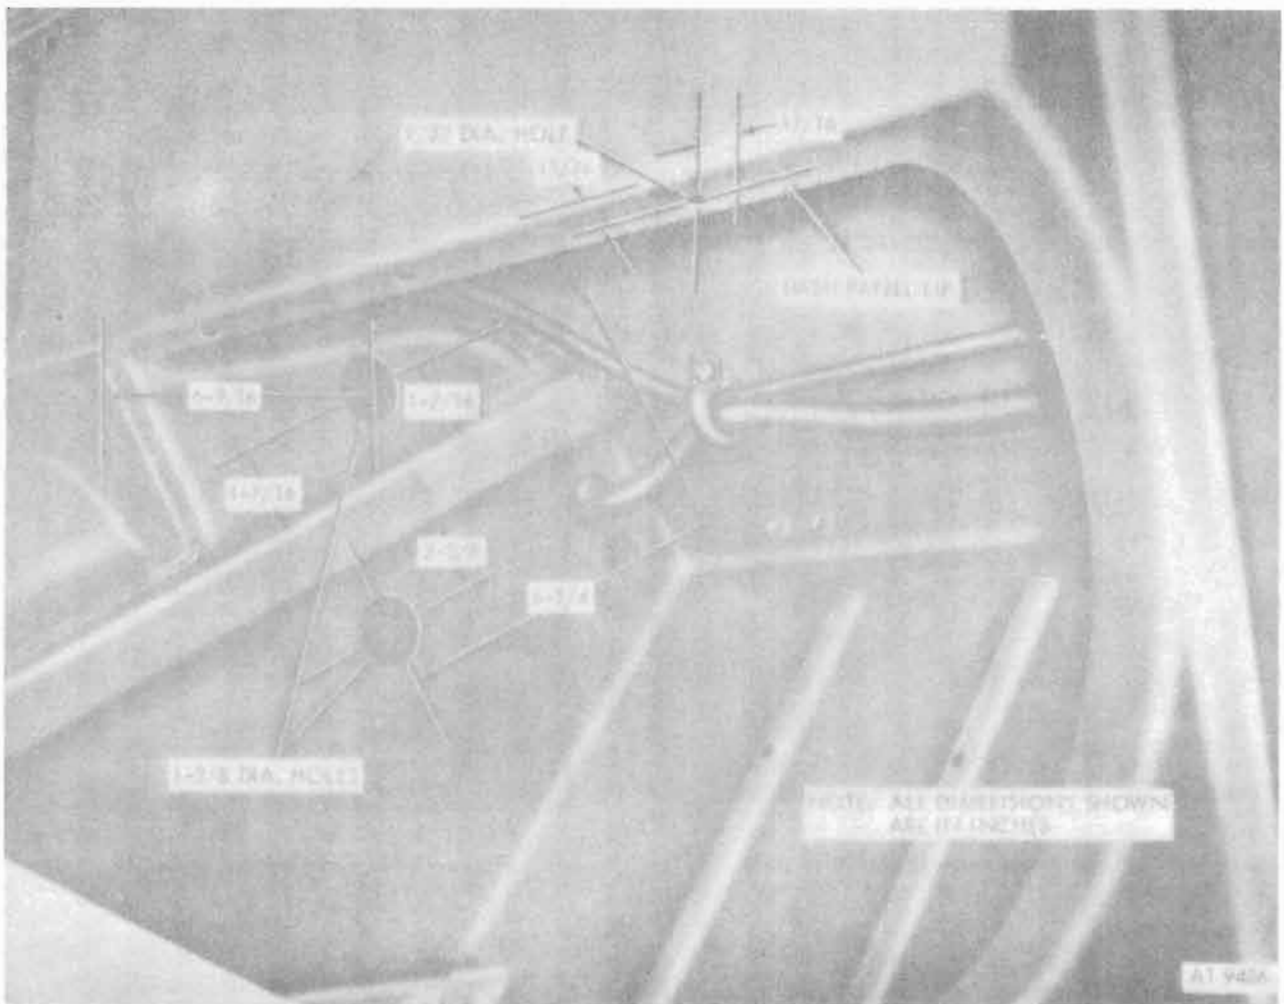

Figure 18-65. Right tunnel panel and dash panel drilling.
d. Locate and cut two $1\frac{3}{8}$ -inch diameter holes in right tunnel panel (fig. 18-65).
e. Locate and drill a $9/32$ -inch diameter hole as shown in lip of dash panel (fig. 18-65).